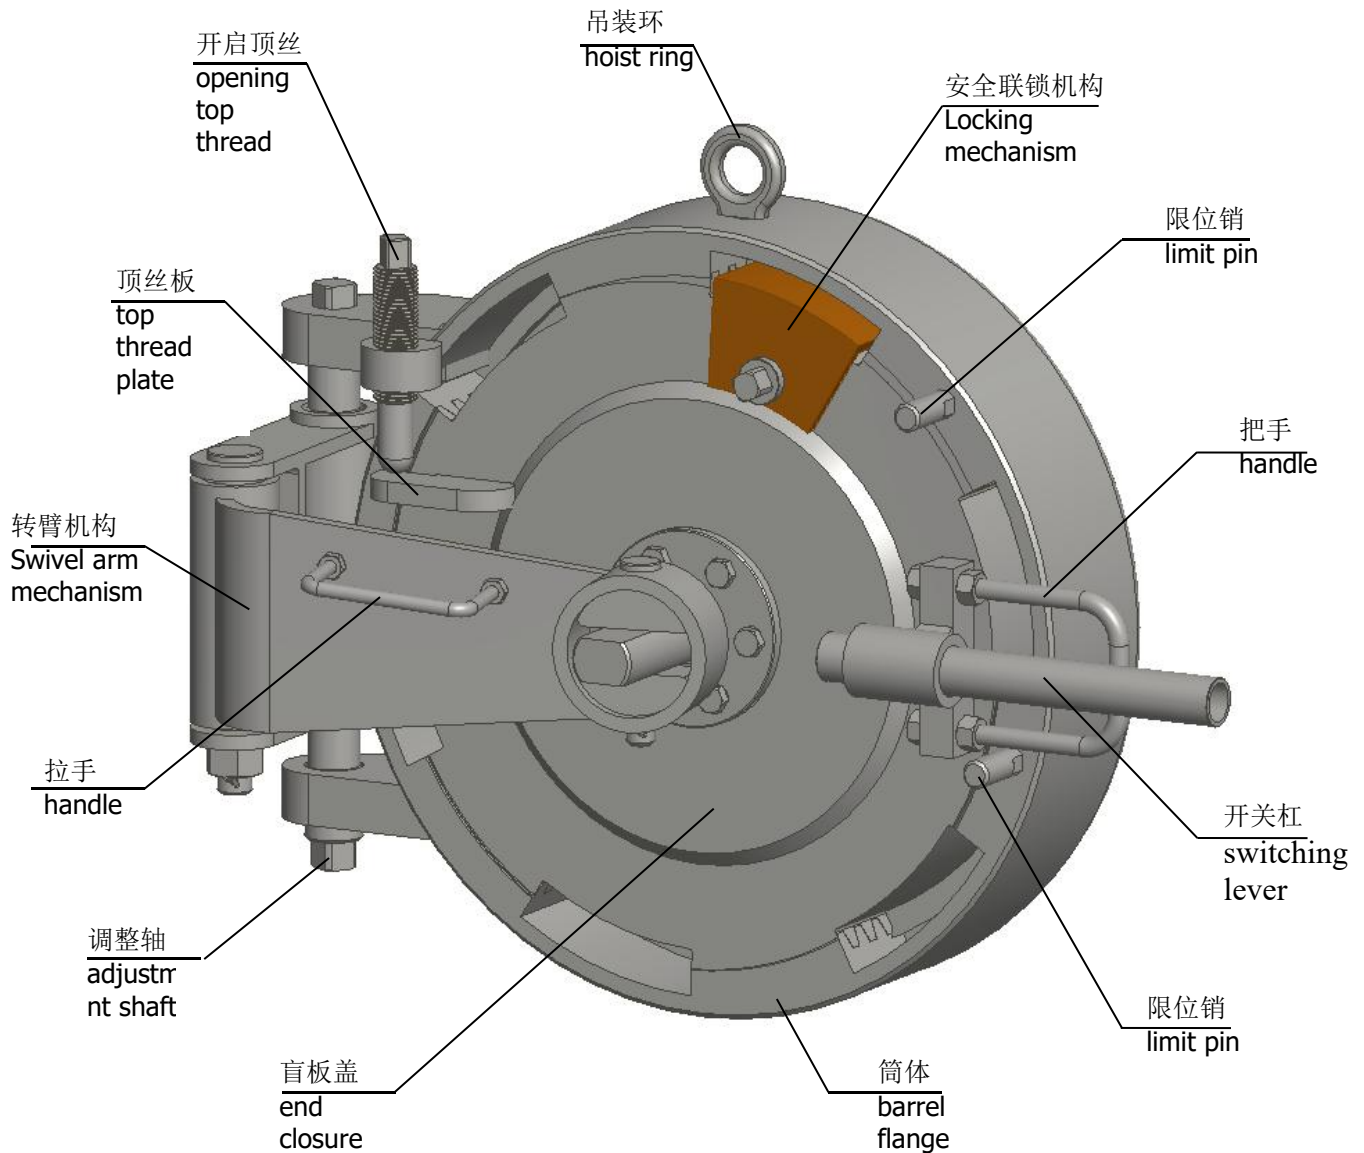

图 1 (picture 1)
2)按图 1 所示，卸下调整轴，对拆下的零部件应做好标记，妥善放置；
2)Remove the adjusting shaft as shown in Fig. 1. The removed parts should be labeled and properly placed;